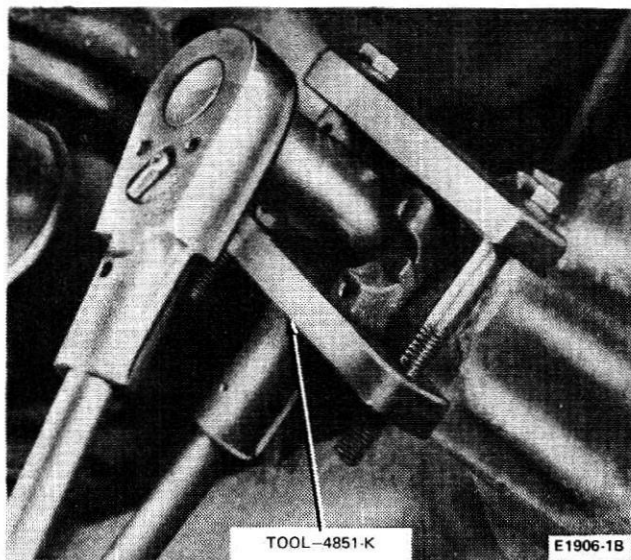

FIG. 7 Removing or Installing Drive Pinion Nut
4. While holding the flange with the tool shown in Fig. 7, remove the integral pinion nut and washer.